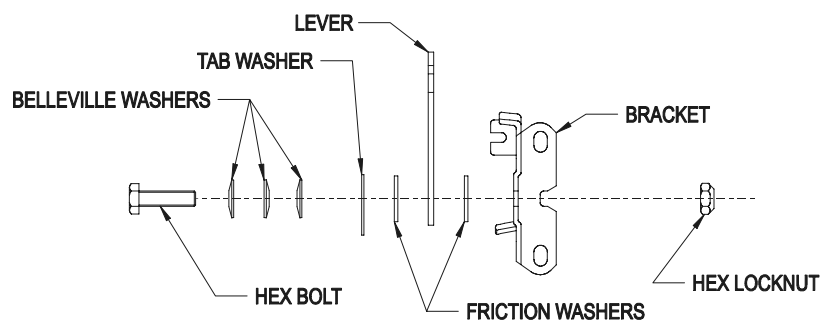

FIGURE 14
b) Tension in throttle lever can be adjusted by adjusting the tightness of the lever pivot bolt, which is located under the console. See Figure 14.